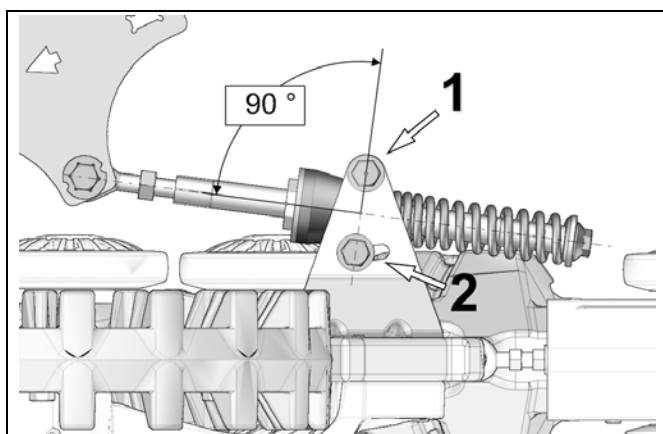

Figure 12
- Position the anti-rotation retainer at 90° (perpendicular) with the stabilizing rod. Tighten the two anti-rotation bracket mounting bolts (1 and 2) to 50 N•m of torque. Refer to Figure 12.